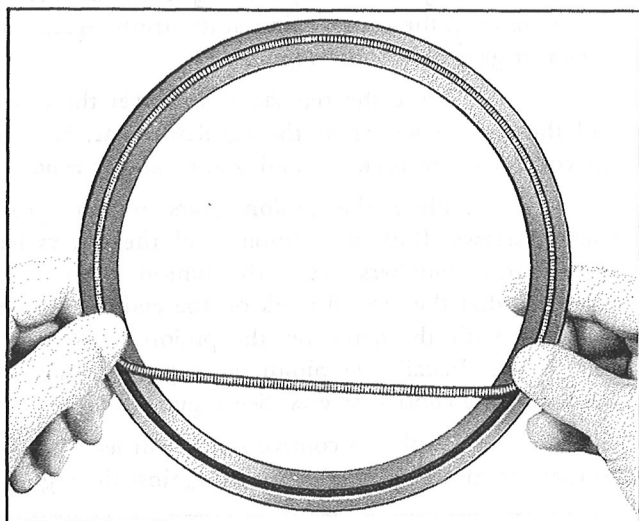

Figure 191—Installation of Seal Spring
k. Install the housing seal spring and the cover seal spring into a new housing seal and a new cover seal, taking care not to stretch or damage the springs or seals. See Figure 191.